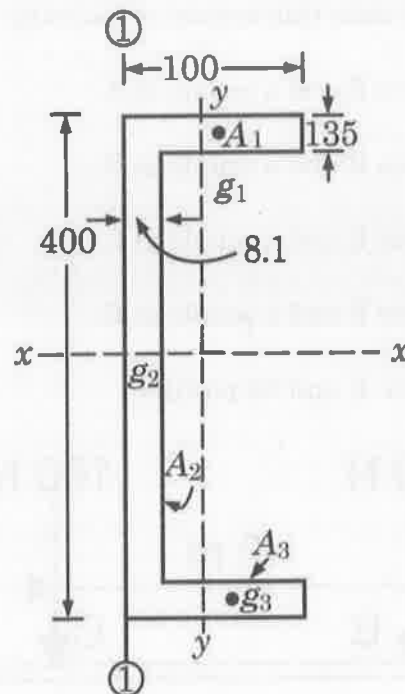

Fig 7
13. (a) Compute the second moment of area of the channel section shown in Fig. 7 about centroidal axes $x-x$ and $y-y$.